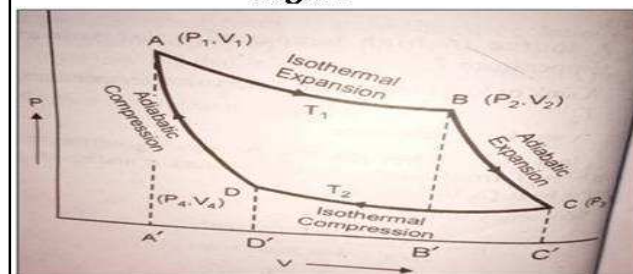

Fig.1.5
- (1) **Isothermal expansion AB:** The piston is moved upward so that gas expands isothermally represented by curve AB as shown in Fig.1.5